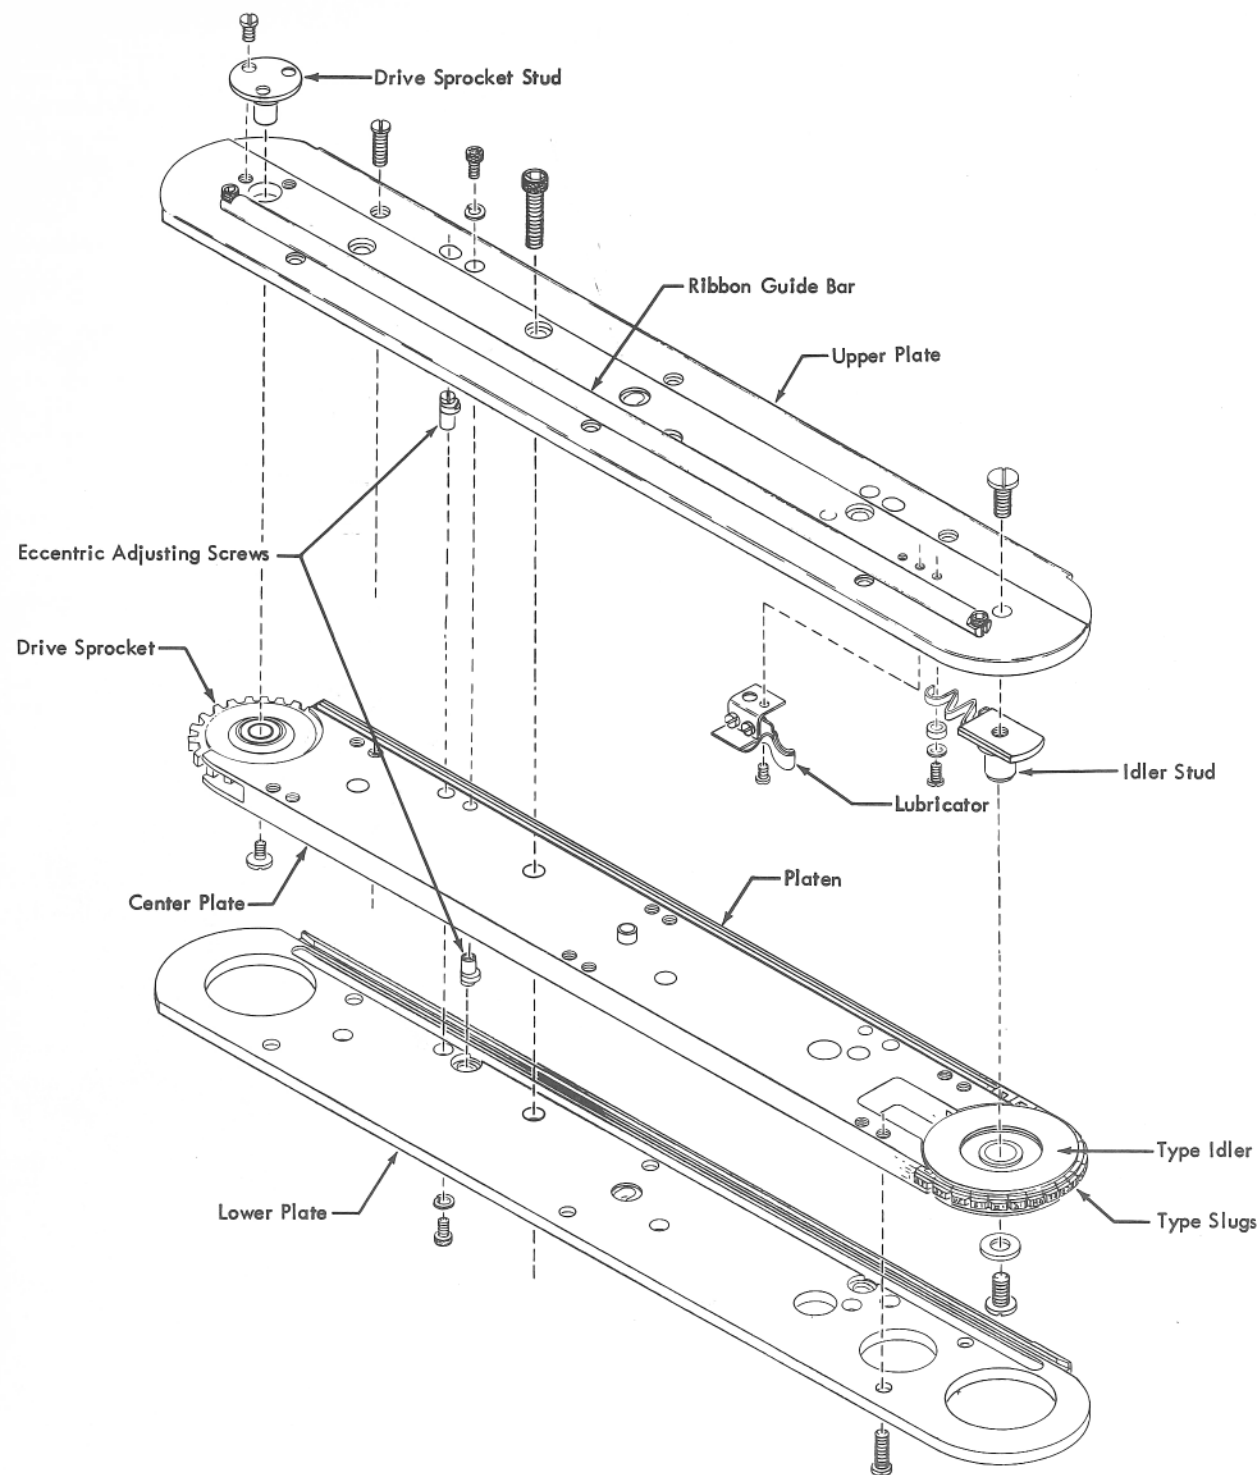

Figure 6. Type Array (Cartridge Assembly)
Center and Upper Plate Reassembly — Flat Idler Spring (Figure 6)
Center and Upper Plate Reassembly—Coil Idler Spring (Figure 6)
Chain to Type Array Reassembly (Figure 6)
- Lower Plate to Type Array Assembly (Figure 6)